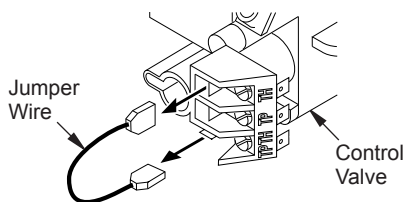

Figure 14 - Disconnecting Jumper Wire from Control Valve
2. Disconnect jumper wire from control valve at TPTH and TH locations (see Figure 14),